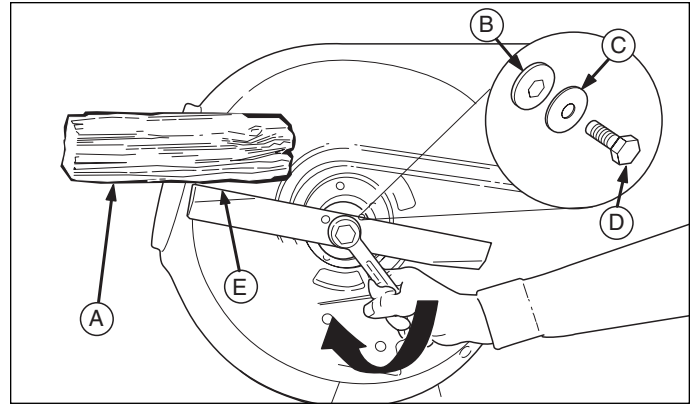

Figure 3. Blade Installation
3. Remove the capscrew (D, Figure 3), spring washer (C), hex washer (B), and blade (E).
4. Reinstall the new blade with the lift wings (E, Figure 3) pointing up toward the mower deck as shown.
5. Reinstall the hex washer (B, Figure 3), spring washer (C) and capscrew (D). Use a wooden block (A) to prevent blade rotation while tightening the capscrew (D) to 45-55 ft. lbs. (61-75 N.m). Turn capscrew clockwise to tighten.